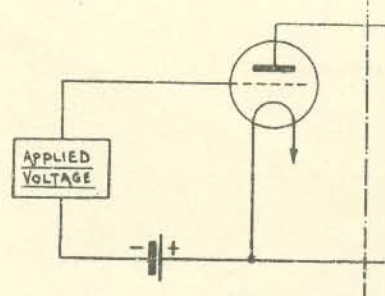

FIG. 18. Battery bias.
7. **Grid Bias Methods.**—(a) *Battery bias.*—This provides a steady bias but is cumbersome, requires maintenance and is not automatic (see fig. 18). (Dotted and missing parts do not immediately affect the grid bias.)